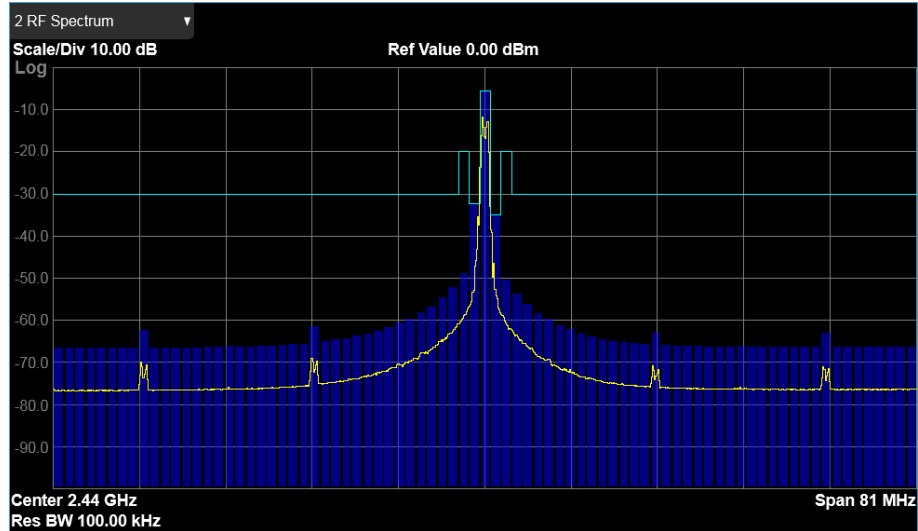

Fig 16. Tx in-band emissions @ 250 kbit/s with buck on
- The Tx in-band emissions with the GFSK data rate of 250 kbit/s are shown in Fig 16.